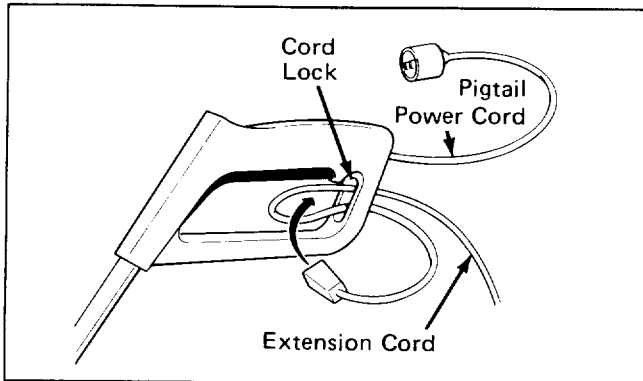

Figure 10
See Figures 10 & 11 for proper cord connection.
1. Secure the pigtail power cord and a suitable extension cord in cord lock as shown in Figures 10 & 11.